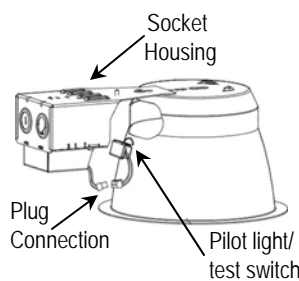
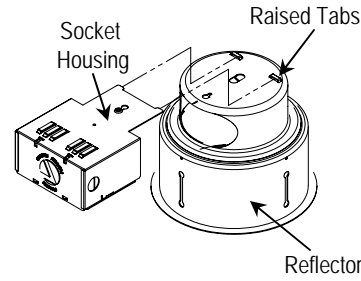

Figure 1
Figure 2
1. If emergency lighting pilot light/test switch is installed in reflector, make plug connections (see Figure 1) and tuck wires into socket housing. Attach socket housing to top of reflector by aligning/inserting socket housing into raised tabs on top of reflector. Align screw on socket housing with keyhole slot in top of reflector and push socket housing forward (see Figure 2). Secure socket housing and reflector together by tightening the screw.